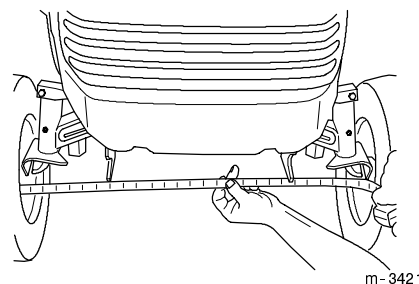

Figure 40
Maintaining the correct front wheel toe-in is important to prevent uneven tire wear, lawn scuffing, and hard steering. If any of these conditions develop, adjustment may be required. Check the toe-in after every 100 operating hours or once a year, whichever occurs first (Fig. 40).
4. Measure the distance between both of the front tires at the spindle level (at the front and rear of the wheels) (Fig. 40).